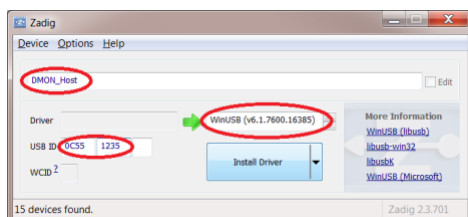

Figure 3. Create DMON_Host device
10. In the top field, enter the name of the device: "DMON_Host". See Figure 3.